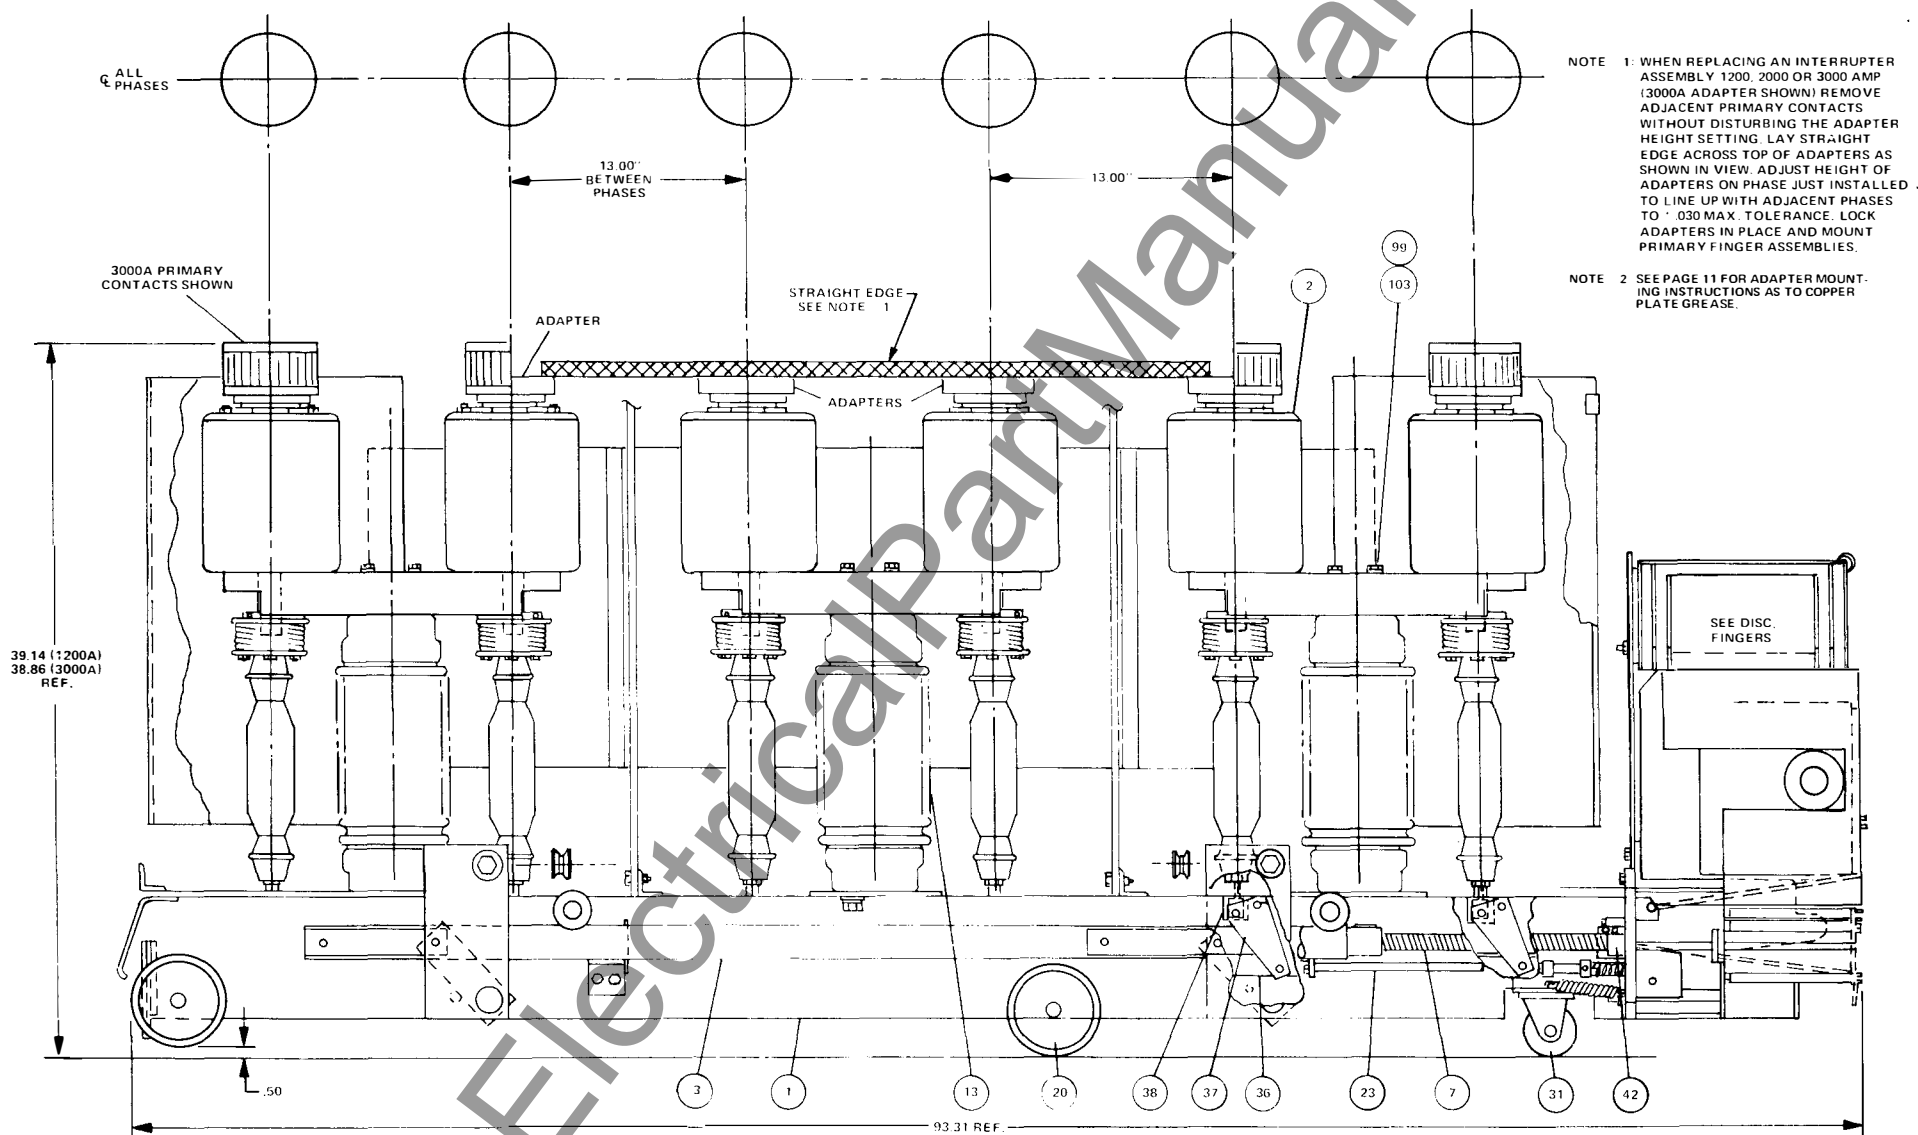

Fig. 4 - Side View - 34.5 kV Vacuum Breaker (Shown with Contacts Open)
Remove only one complete phase assembly at a time. This leaves the two remaining phases intact and they will serve as the reference required to realign the one phase being replaced. See Fig. 4.
6. Loosen the four hex head cap screws (99, Fig. 4) alternating diagonally so as to relax spring pressure evenly as screws are loosened.
7. With second person holding the interrupter assembly steady, back out both adjusting screws (9, Fig. 3) simultaneously by turning clockwise as viewed from top of breaker. This will release adjusting screws from base of connecting rod (Fig. 3) and pivot block (38, Fig. 4). The complete interrupter assembly is now free and can be carefully set aside. Replace the adjusting screws in the pivot block (fine thread end) about two or three turns counterclockwise.
9. When adjusting screws have been well started into pivot blocks and insulators, replace the four cap screws and lock-washers (99 & 103, Fig. 4). Making sure that assembly is located on 13 inch center line (Fig. 4) and in line with the other disconnects (Fig. 4). Tighten to 96 - 136 foot pounds.
11. Mount adapters for primary contact finger assemblies. For 2000 amp and 3000 amp contact adapters, loosen the socket head locking screw on side of adapter before threading onto the stud on top of interrupters. Coat stud with copper plate grease A-C Part #15-171-455-001. Thread adapter onto stud and run down to base of stud without forcing. Refer to Note #1, Fig. 4 for adapter height adjustment. Be sure to lock firmly in place after adjustment.